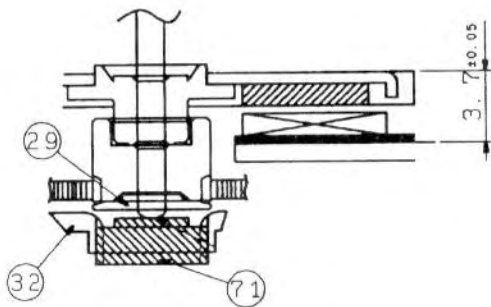

Fig. 3-3
- When the ②⑦ Rotor Block is not replaced, the ⑦① Wheel Shaft Retainer should not be removed. (Refer to Fig. 3-3 for the assembling dimensions)
・ ⑦① Wheel軸受けは、②⑦ Rotor Blockを交換しない時は外さないこと。(組み立て寸法はFig. 3-3を参照のこと。)